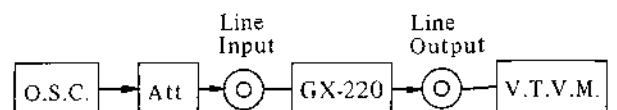

Fig. 7-2
- As shown in Fig. 7-2, connect an Audio Oscillator and Attenuator to the Line Input and connect a high sensitivity V.T.V.M. to the Line Output.